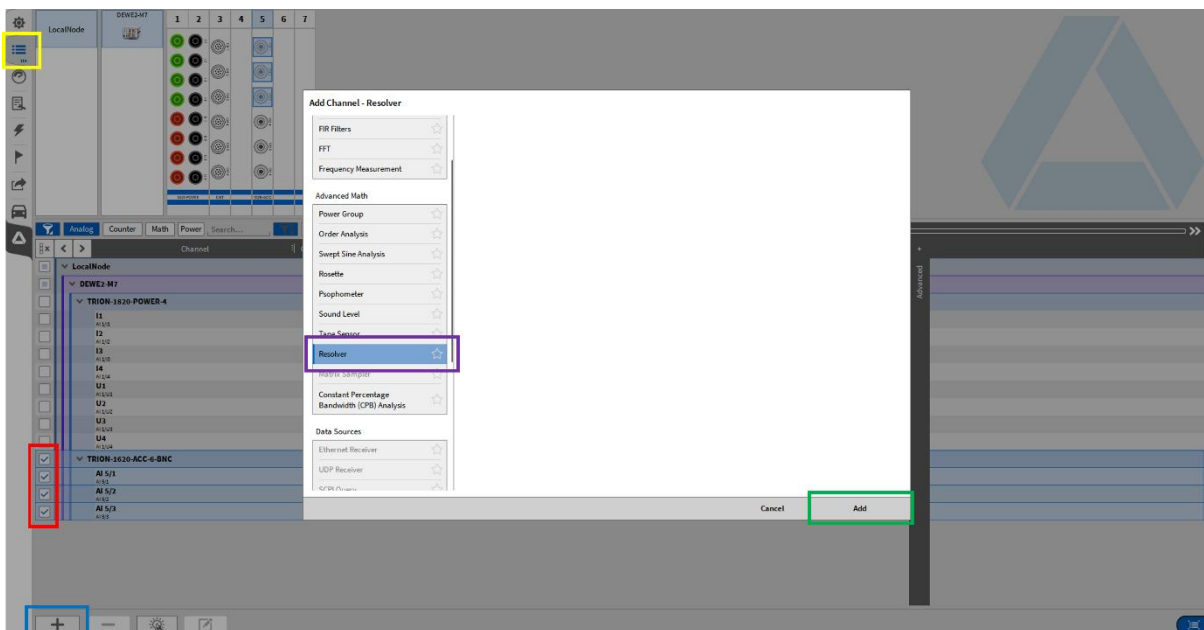

Figure 3-1: Adding a Resolver in OXYGEN
- Start OXYGEN and Open the Channel List (see yellow box in Figure 3-1)
- Select 3 signals **sin, cos, excitation** analog signals (see red box in Figure 3-1) **or** select 2 signals sin envelope, cos envelope
- Click on the + button on the bottom left (see blue box in Figure 3-1)
- Click on Resolver in the Advanced Math group (see purple box in Figure 3-1)
- Click on the Add button (see green box in Figure 3-1)